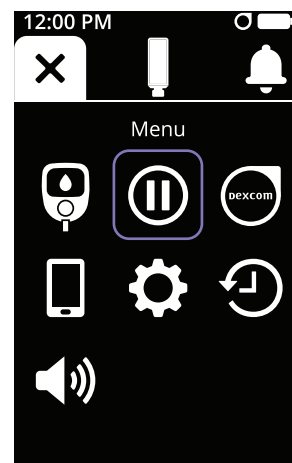

Figure 106
- b. Tap the Pause Insulin icon (see Figure 106).